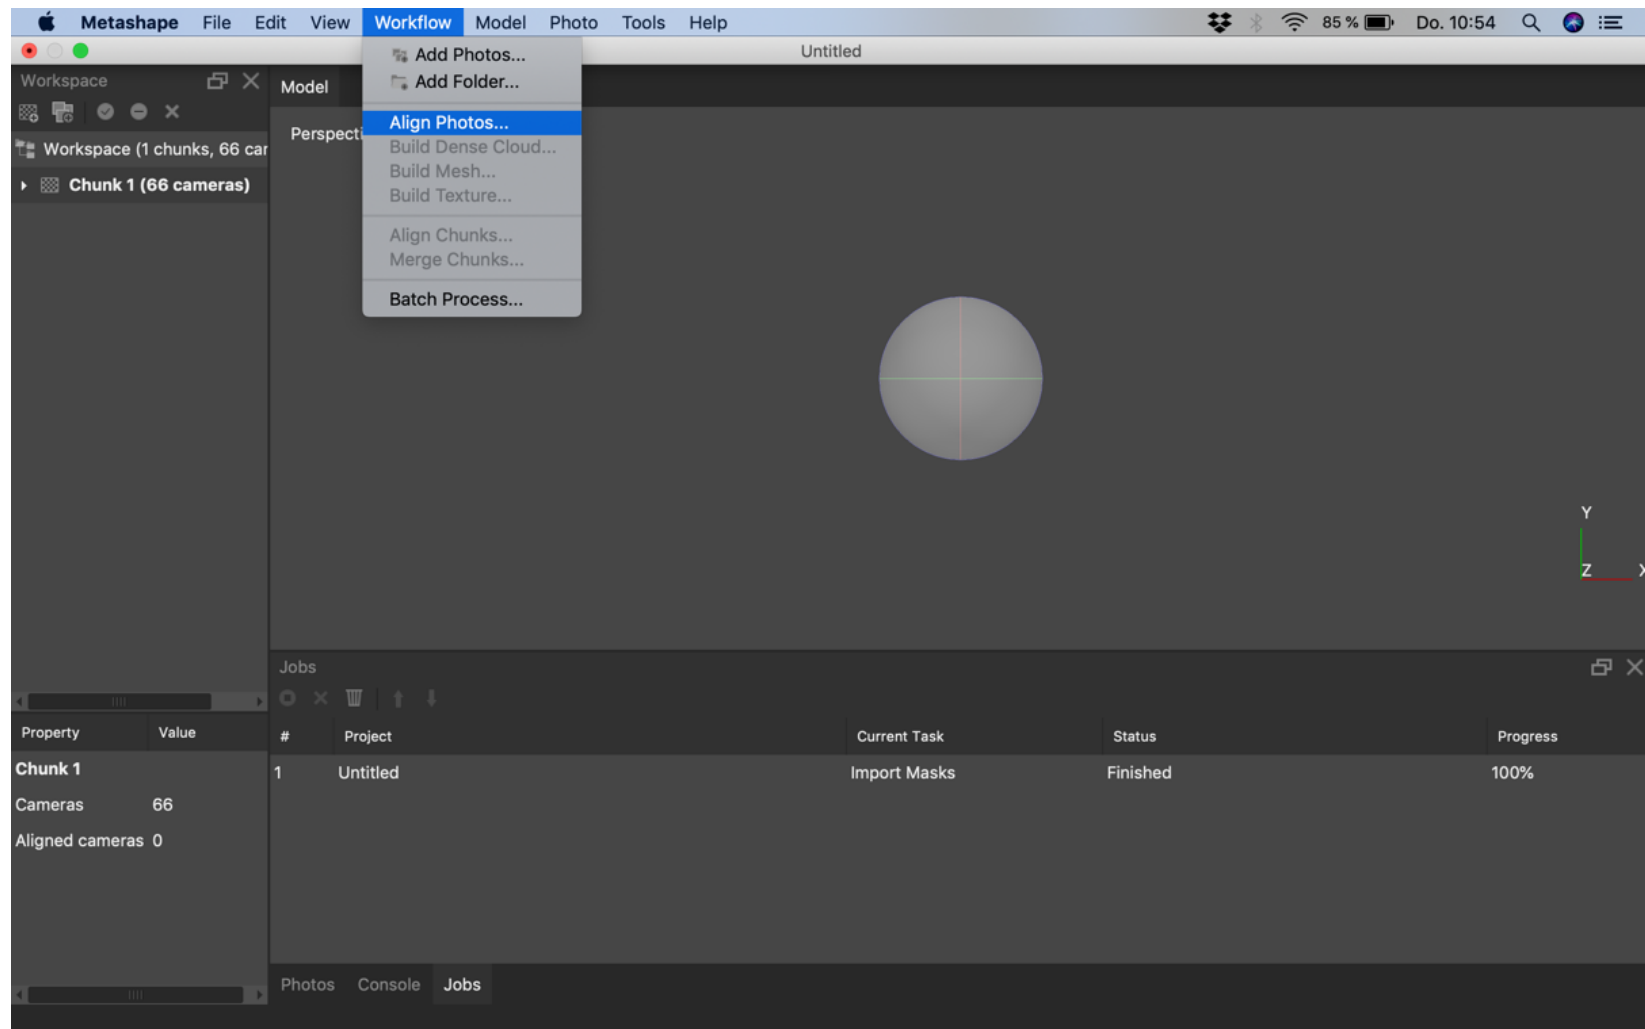

Figure 14. Aligning photos in Metashape
3. Choose “Workflow” in the top bar, select “Align Photos” (Figure 14 and 15) (**settings**: accuracy = high, select generic preselection, key and tie point limit = 0, apply masks to key points). This can take up to 30 minutes (depending on the number and quality of the pictures and system specifications of your computer).